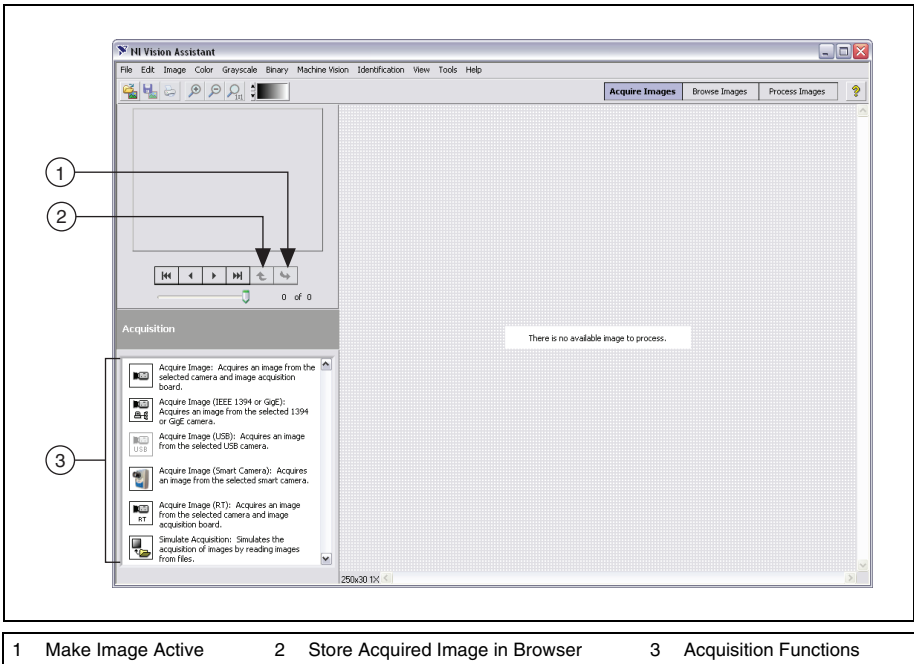

Figure 2-5. Acquiring Images in Vision Assistant
2. Click **Acquire Image** in the Welcome screen to view the Acquisition functions, as shown in Figure 2-5.
If you already have Vision Assistant running, click **Acquire Images** in the toolbar. Vision Assistant displays the Acquisition functions, as shown in Figure 2-5.